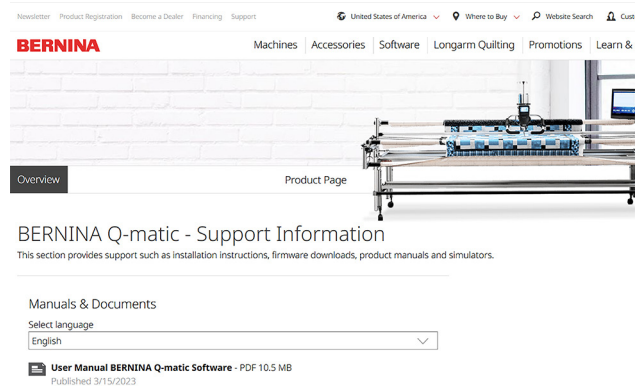

Fig. 14
4. On the next page, select the current firmware version (Fig. 14).